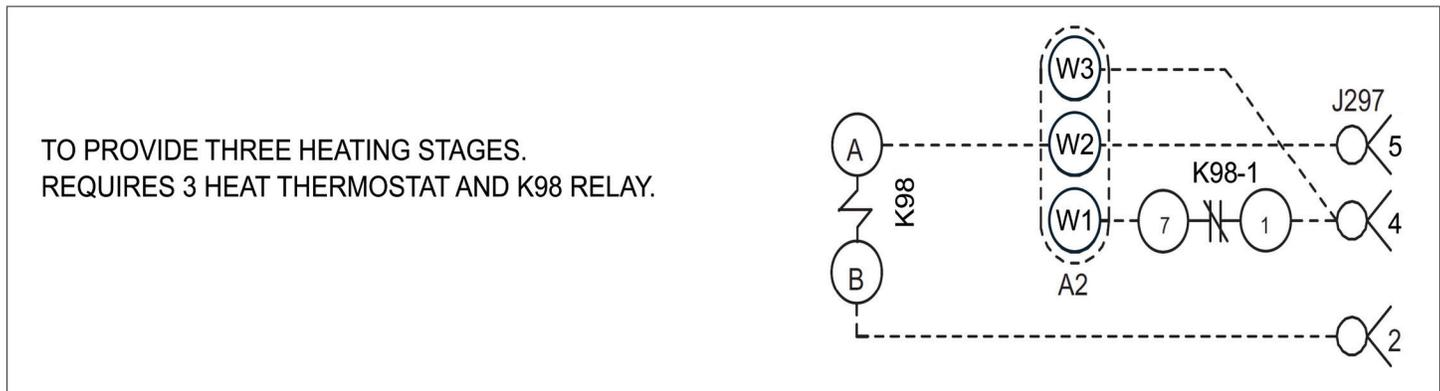

Figure 31. Third Stage Heat (Parameter 112) Wiring
- **Option 3. Three Stage Thermostat.** SH and SD units with two stage secondary heat support up to three stage operation in Thermostat mode. This option requires the use of a three stage heat thermostat and K98 relay. See "Figure 31. Third Stage Heat (Parameter 112) Wiring" on page 34 and C section control wiring diagram.